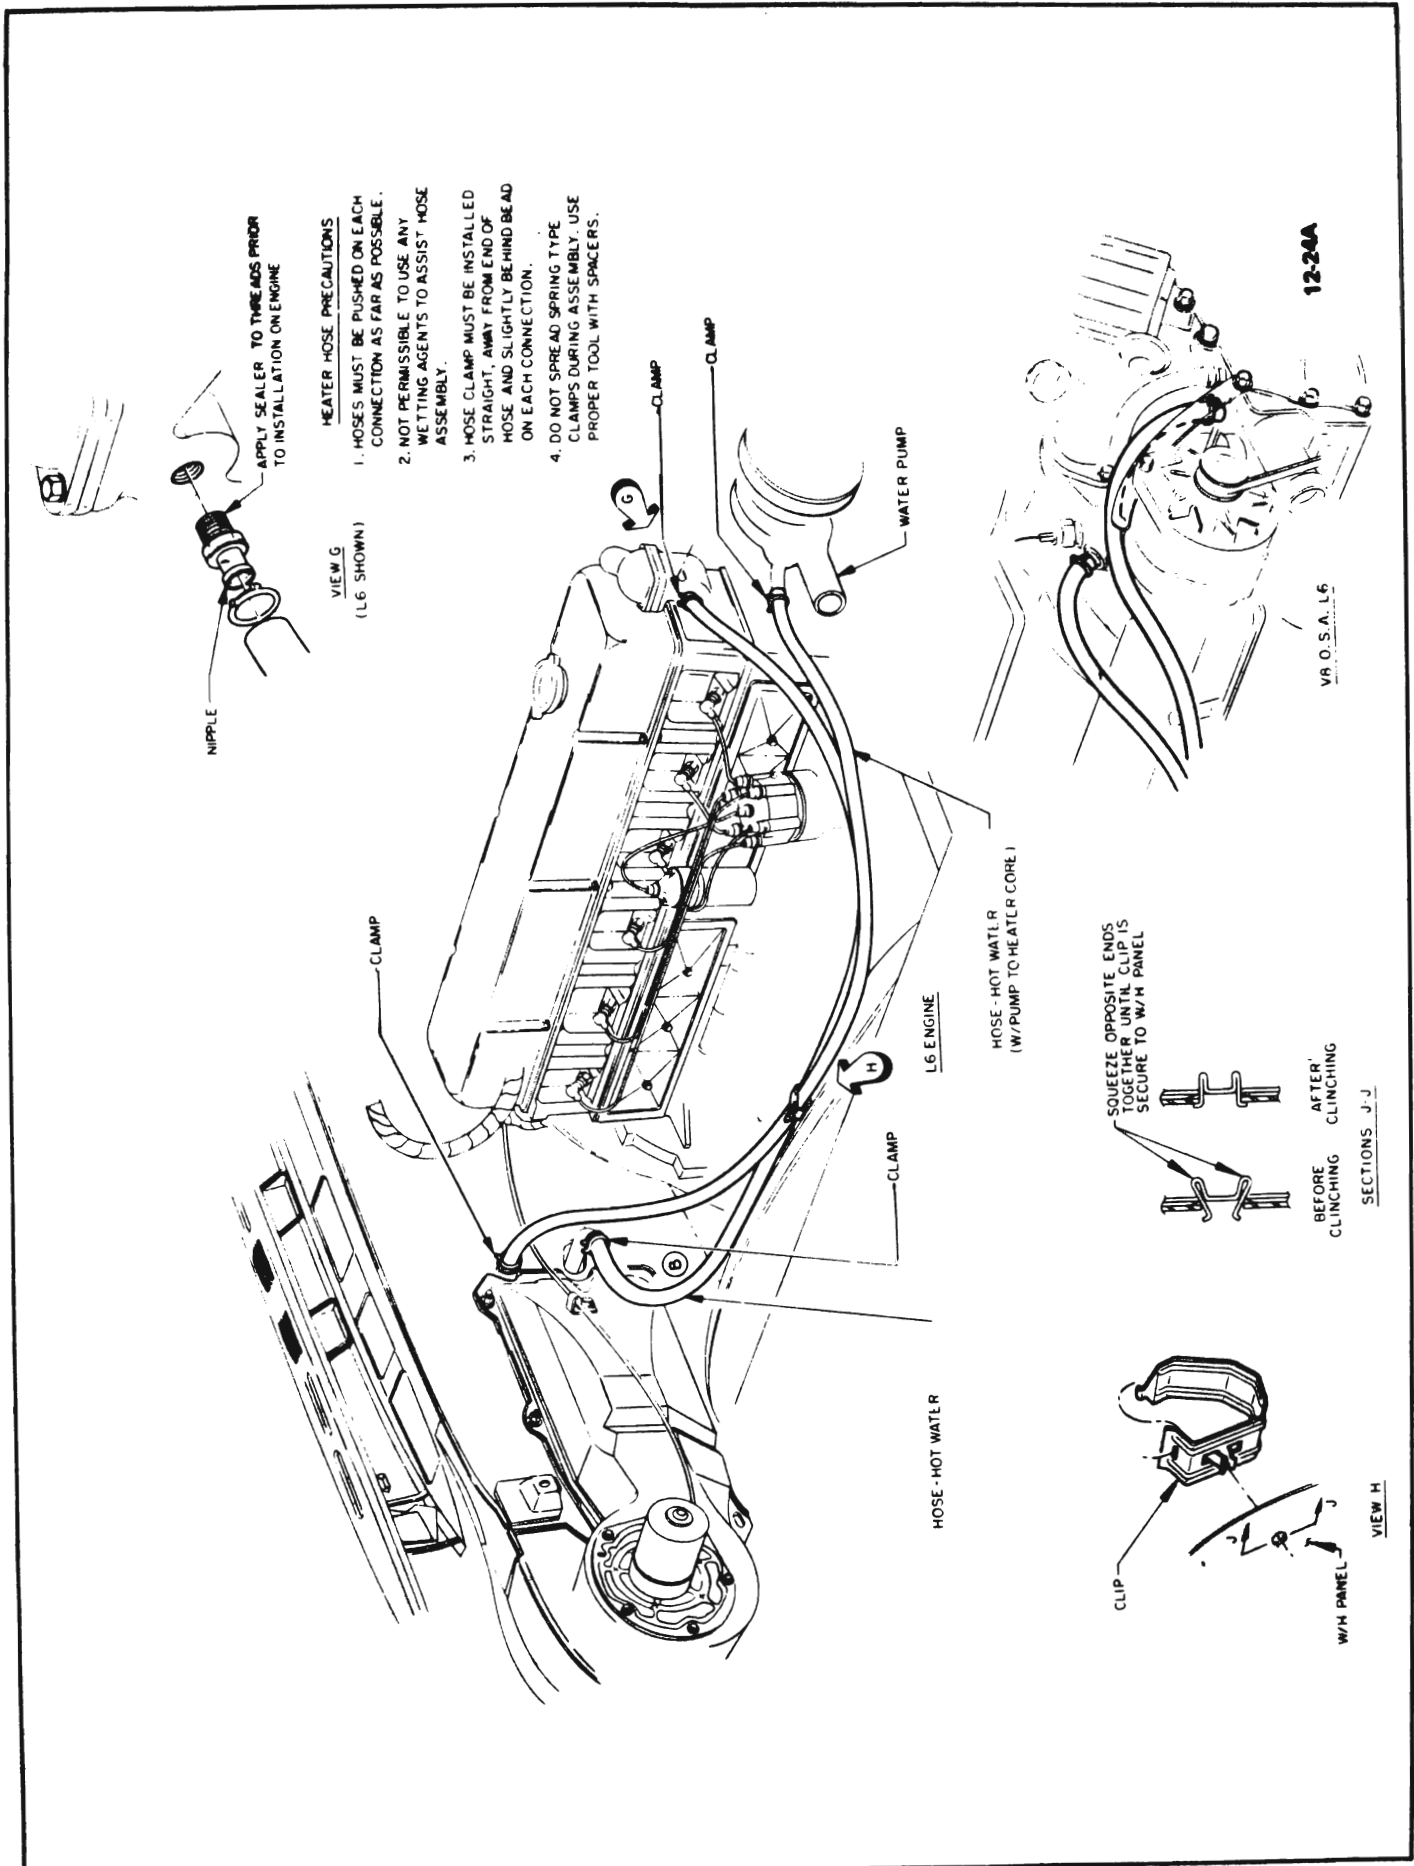

Figure 12-5 Heater Hose Installation
The heater core, located in the heater assembly, has water flowing through it at all times. The water flow begins at the front of the intake manifold (V-8 engines) or thermostat housing (L-6 engines) and flows to the lower (inlet) port of the heater core, out the upper (outlet) port of the heater core and to the suction port of the water pump. See Figure 12-5.
6. Disconnect heater inlet and outlet hoses from heater core inlet and outlet ports (see Figure 12-5).